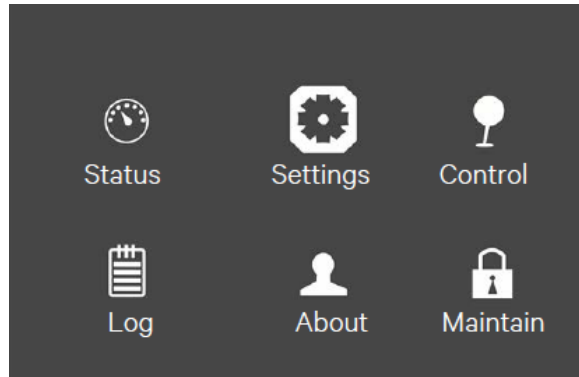

Figure 5-12 Main menu screen
1. At the main menu screen, press the  or  key to switch the cursor to select 'Settings', then press the  key to confirm it. See Figure 5-12.